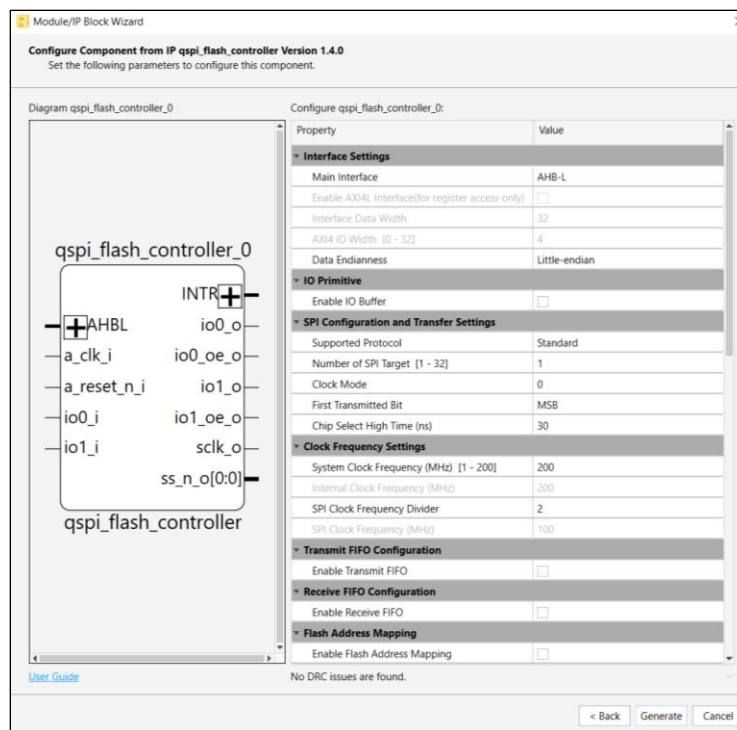
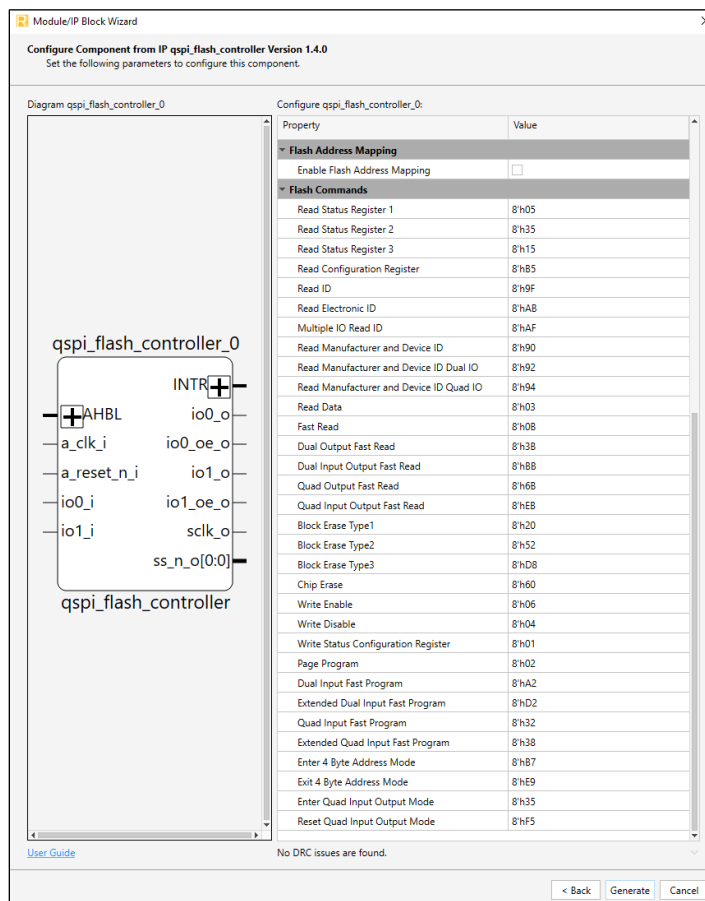

Figure 7.2. IP Configuration – View 1
Figure 7.3. IP Configuration – View 2
3. In the next **Module/IP Block Wizard** window, customize the selected QSPI Flash Controller IP using drop-down lists and check boxes. Figure 7.2 and Figure 7.3 show an example configuration of the QSPI Flash Controller IP. For details on the configuration options, refer to the IP Parameter Description section.